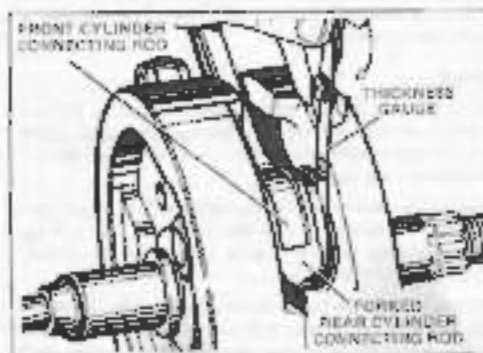

Figure 3-46. Checking Connecting Rod Sideplay
12. If it is impossible to true wheels, check for a cracked flywheel, damaged or enlarged tapered hole, or a sprocket or pinion shaft worn out of-round at surface where indicator reading is being taken. When wheels are true, position in view and draw crank pin nuts very tight using Crank Pin and Flywheel Nut Wrench, Part No. 94546-41, or use torque wrench and tighten to foot-pound reading given in "Engine Specifications." Check connecting rod side play with thickness gauge as shown in Figure 3-46. If it is greater than tolerance shown in "Engine Specifications," draw up crank pin nuts until within tolerance. Insufficient play between rods and flywheel face is caused by one of the following conditions: